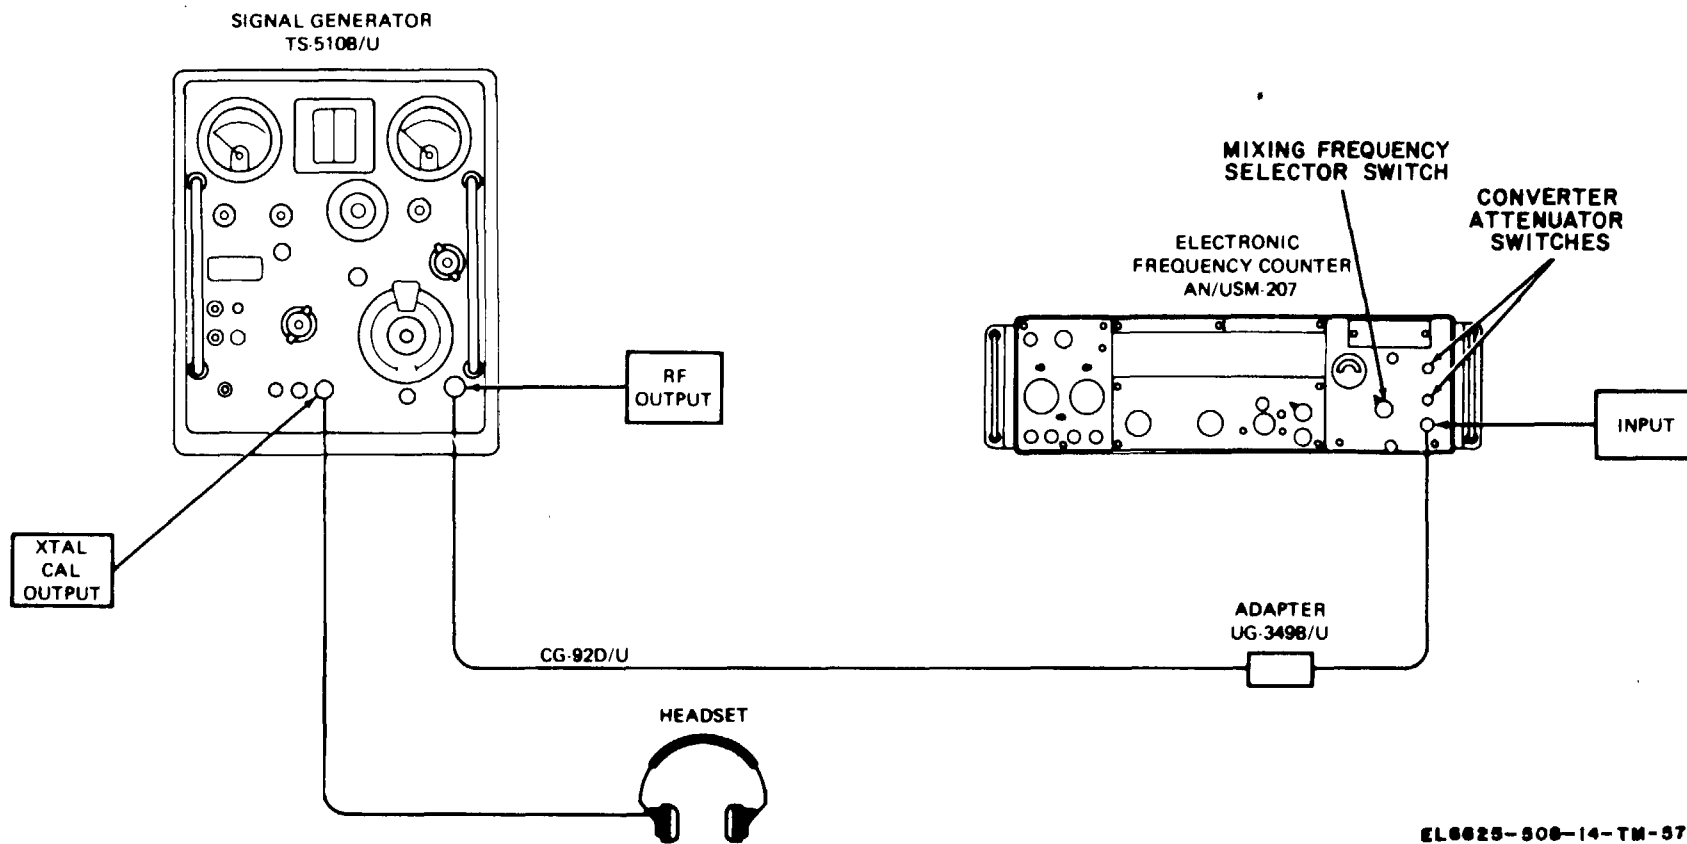

Figure 6-28. Crystal calibration accuracy test connections.
- (1) Electronic Frequency Counter AN/USM-207
- (2) Coaxial Cable CG-92D/U
(3) Adapter UG-349BIU
(4) Headset (PL-55 plug)
b. Test Connections and Conditions. Connect the equipment as shown in figure 6-28.